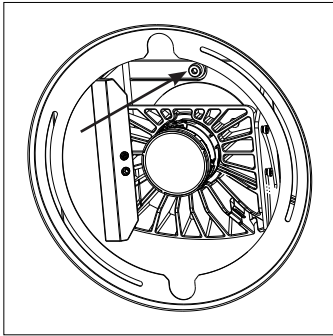

fig. 18 (lock)
- a. Unlock the emitter chassis by loosening the lock screw with a 4 mm hex tool (see fig 18).